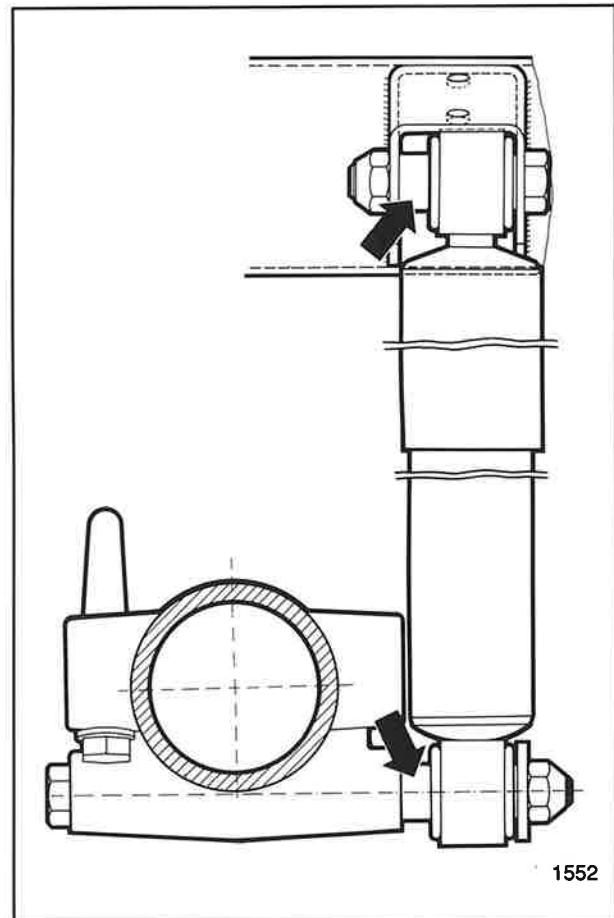

Fig. 26
- Smear threads and shafts of shock absorber screws moderately with Loctite Anti-seize and mount acc. to fig. 26. Tighten screws only when axle being in extended position to 200 Nm.
- Twist brake cable before hooking in into angle lever by 3-4 turns in same winding direction (29).